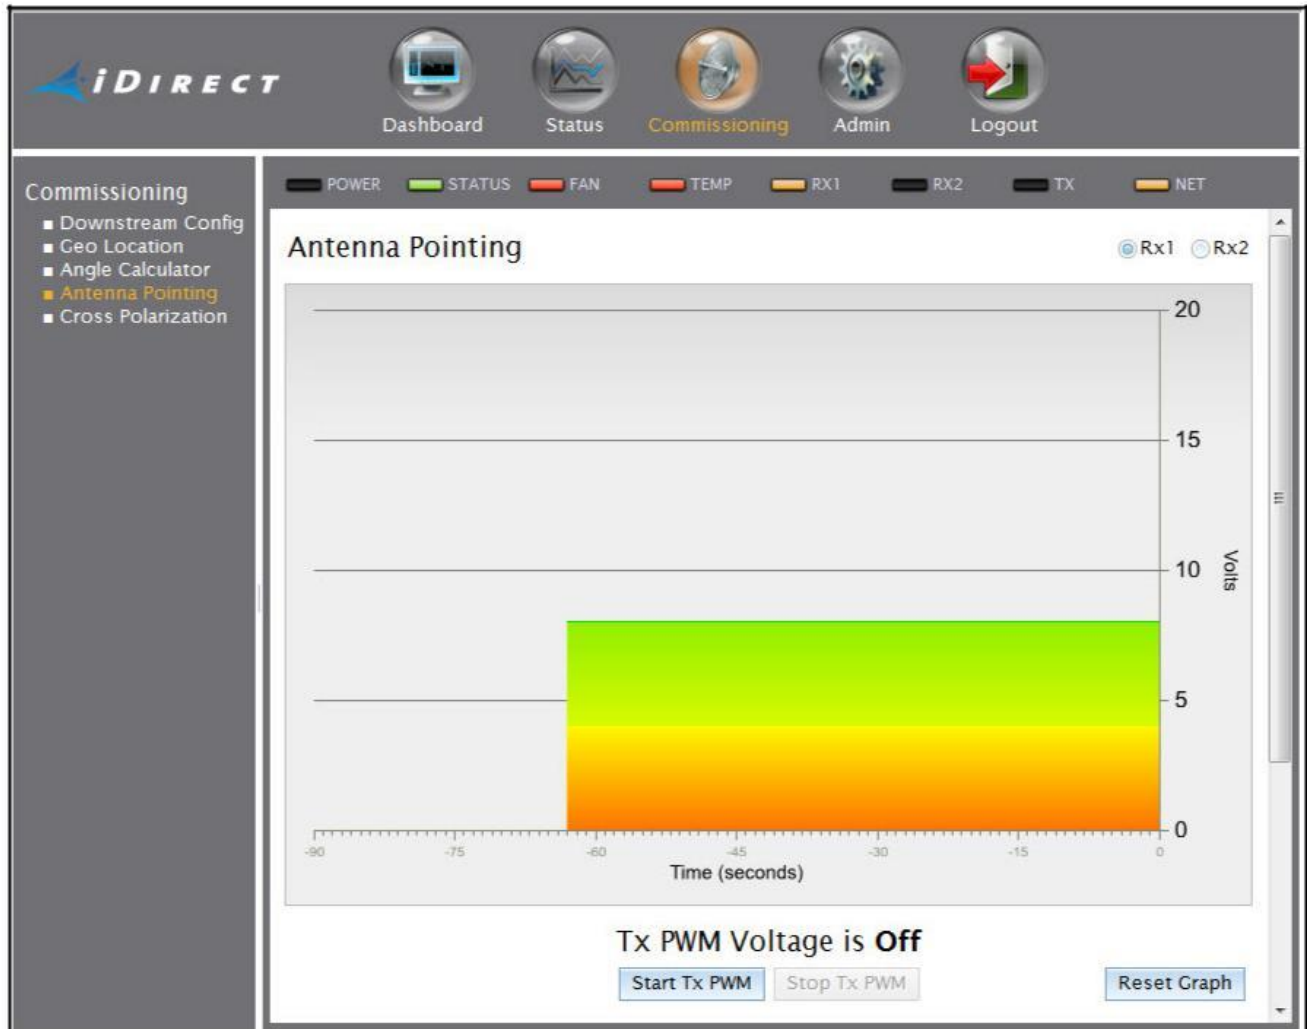

Figure 40. Web iSite Antenna Pointing Graphic Display: X7
4. For dual-receiver models such as the X7, select **Rx1** or **Rx2** at upper-right. See Figure 40.